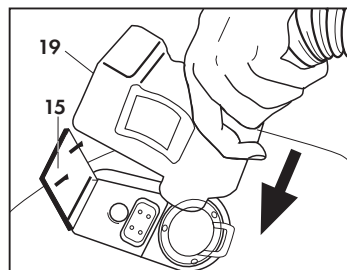

Fig. 8
Pull the accessories socket door (15) wide open and plug the quick connection for the hose (19) into the socket on the front of the appliance; push the quick connection in as far as it will go. Close the accessories socket door (15) against the body of the quick connection and ensure that the two parts latch onto each other. (Fig. 8)